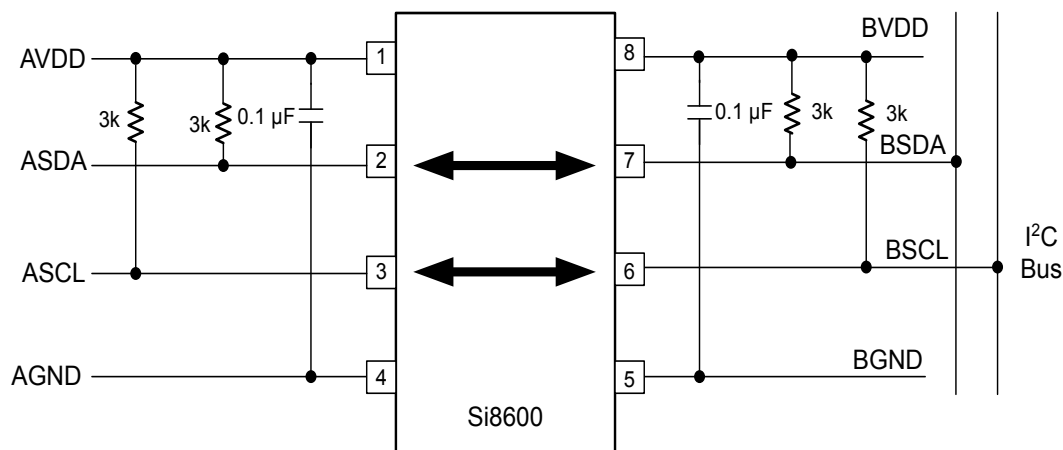

Figure 3.2. Typical Si8600 Application Diagram
3.0 V < VDD < 5.5 V. TA = −40 to +125 °C. Typical specs at 25 °C (See Figure 5.2 Simplified Timing Test Diagram on page 15 and Figure 3.2 Typical Si8600 Application Diagram on page 5 for test diagrams.)